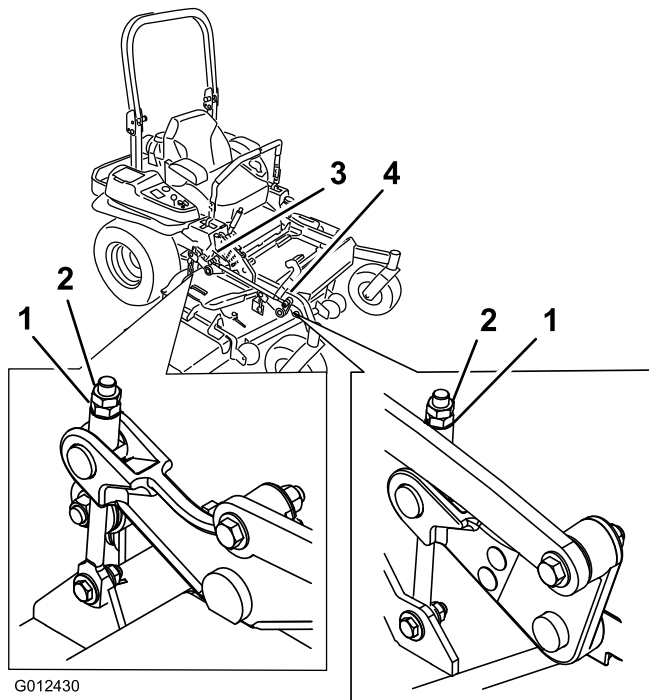

Figure 94
10. For mower decks shown in Figure 94, fine-tune the adjustment nut on the front deck lift assembly by turning it (Figure 94).
17. Fine-tune the adjustment nut on the front deck lift assembly by turning it (Figure 94).